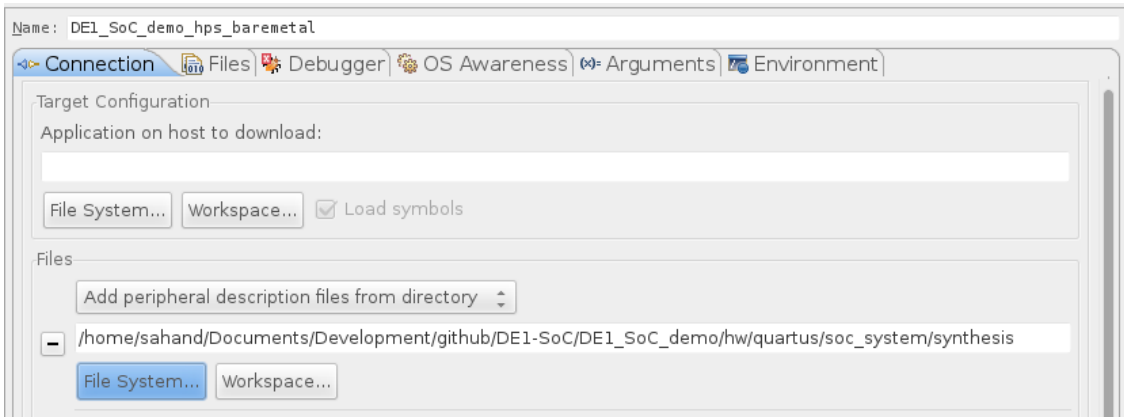

Figure 12-6. Debug Configuration "Files" Tab
- b. In 9.3.2, we configured our HPS to use some FPGA peripherals. We can instruct the debugger about this so it can show more detailed information when debugging. To do this, set the combobox to "Add peripheral description files from directory" and set it to the "DE1_SoC_demo/hw/quartus/soc_system/synthesis" directory, as shown in Figure 12-6. This directory contains a file called "soc_system_hps_0_hps.svd" which has information on all of the HPS' peripherals which are in the FPGA fabric.